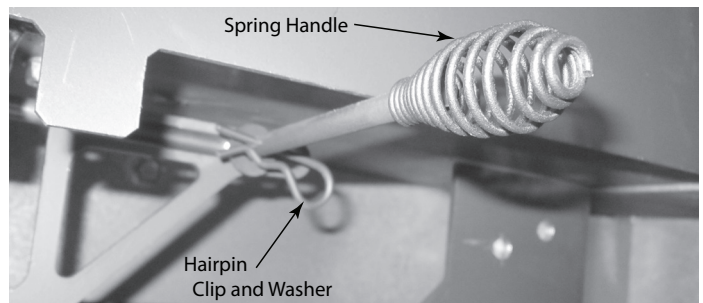

Figure 4.28 Removal of Spring Handle
3. Remove the spring handle by twisting it to the left and pulling on it. Hold on to the rod as this is being done. See Figure 4.28.
4. Pull off and remove the hairpin clip and the washer on the rod. See Figure 4.28.